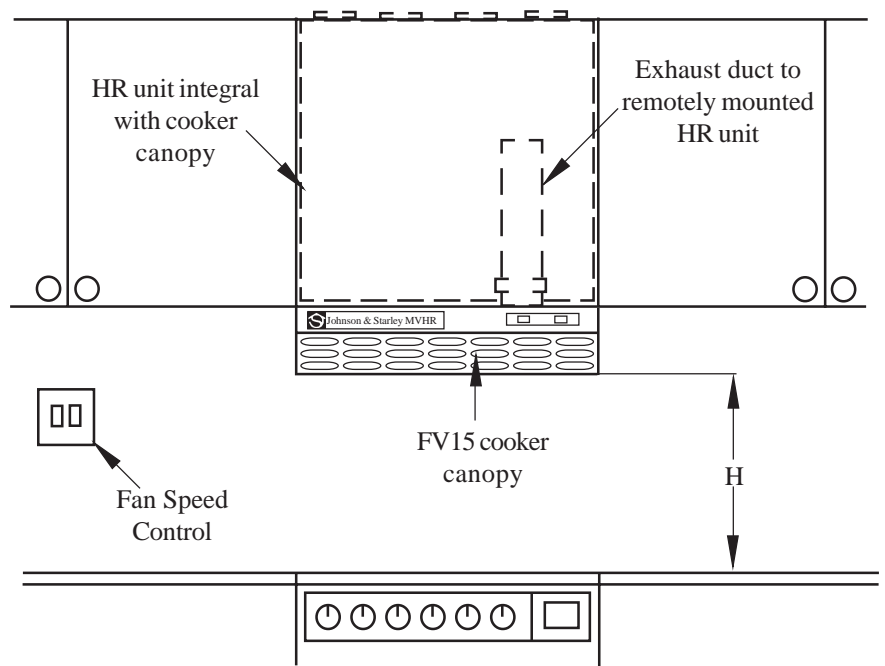

Fig. 6
NOTE: Installation height is subject to local regulations, but the height (H) of a cooker canopy must not be less than 450mm from the top of an ELECTRIC cooker, or less than 700mm from the top of a GAS cooker (refer to Fig. 6).
2.9.1 Referring to Paragraph 2.4.1 and Fig. 6, determine the height (H) of the cooker canopy from the cooker top. Mark the base datum line for the Heat Recovery unit at $H + 150$ mm.